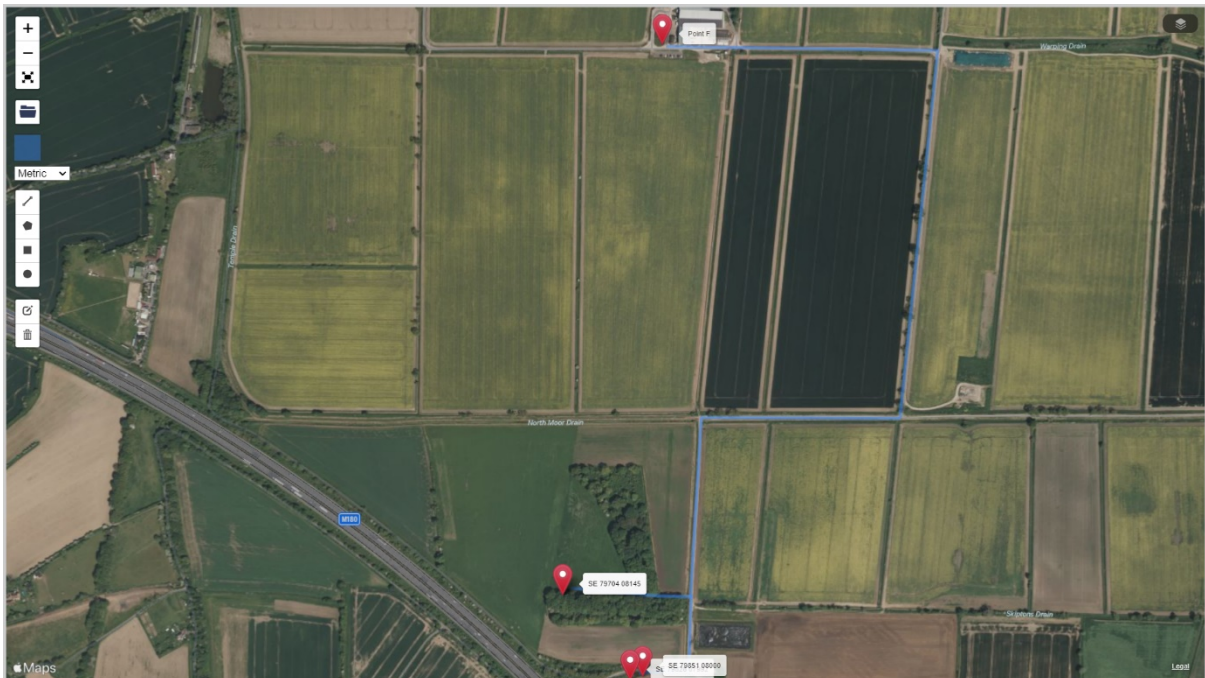

Fig.1
3. The machinery to be used for the pond construction process across all three pond sites will then be tracked from point F along the highlighted route (established farm track) to the pond creation sites (see Fig.1 below)